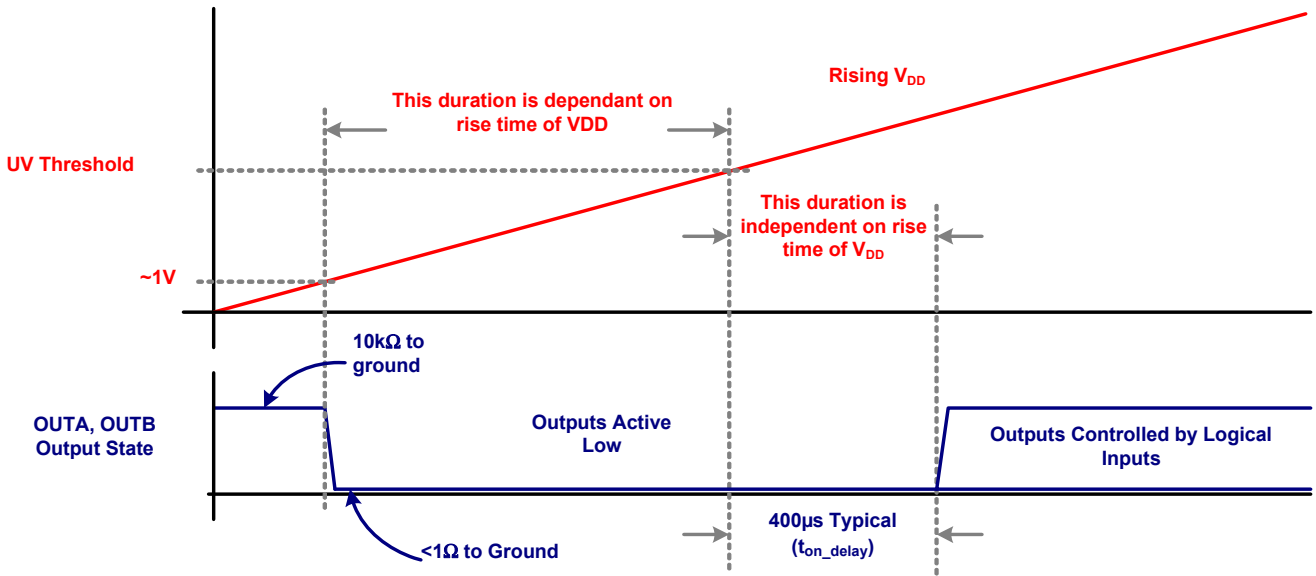

Figure 10. Start-Up Output Characteristic
- A 400 μs delay further inhibits the release of the output state when the UV positive going threshold is crossed. See Figure 10 on page 10.
The start-up sequence for input threshold Options A, B, and C prevents unexpected glitches when V_{DD} is being turned on or turned off. When $V_{DD} < \sim 1V$, an internal $10k\Omega$ resistor connected between the output and ground helps keep the gate voltage close to ground. When $\sim 1V < V_{DD} < UV$, both outputs are driven low while ignoring the logic inputs. This low state has the same current sinking capacity as during normal operation, and it ensures that the driven FETs are held off even if there is a switching voltage on the drains that can inject charge into the gates using the Miller capacitance. When $V_{DD} > UVLO$, and after a $400\mu s$ delay, the outputs now respond to the logic inputs. See Figure 10 for complete details.